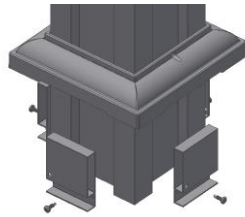
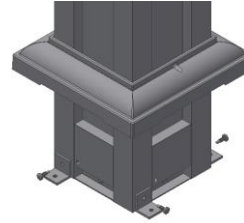

Fig. 4
Fig. 5
**Step 5a** When installing square recessed column attach filler blocks with screws provided to top and bottom of column (See Fig.4) before attaching angle brackets to corners of square recessed column. (See Fig. 5)